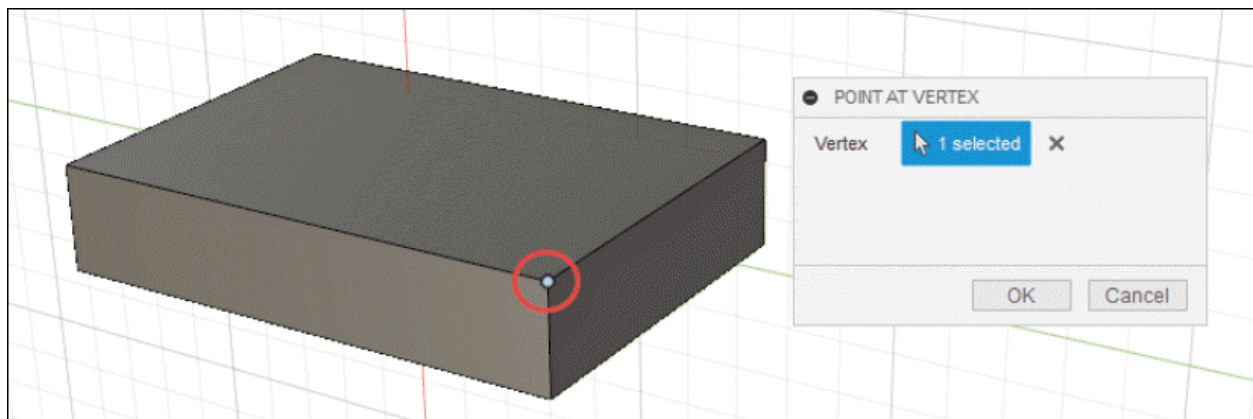

Figure-124. Preview of point at vertex
- Click on the vertex of model to create a constructional point; refer to Figure-124.